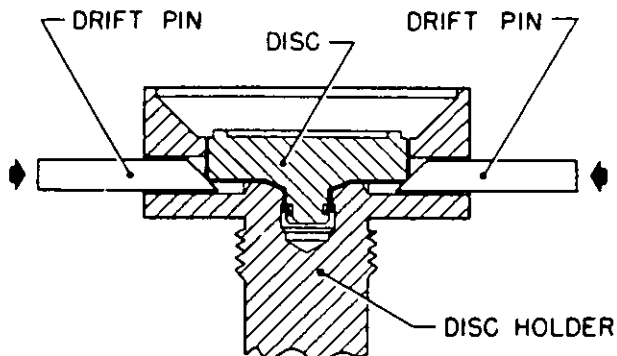

Fig. 7
10. To remove disc from disc holder, proceed as follows: (See Fig. 7) Clamp stem portion of the disc holder, disc end up, snugly between two V-blocks in a suitable vise. Then start special drift pins³ into the holes in disc holder with tapered portion of pins working against top of disc as indicated. Tap each pin alternately with a light machinist's hammer until disc snaps out of recess in disc holder.